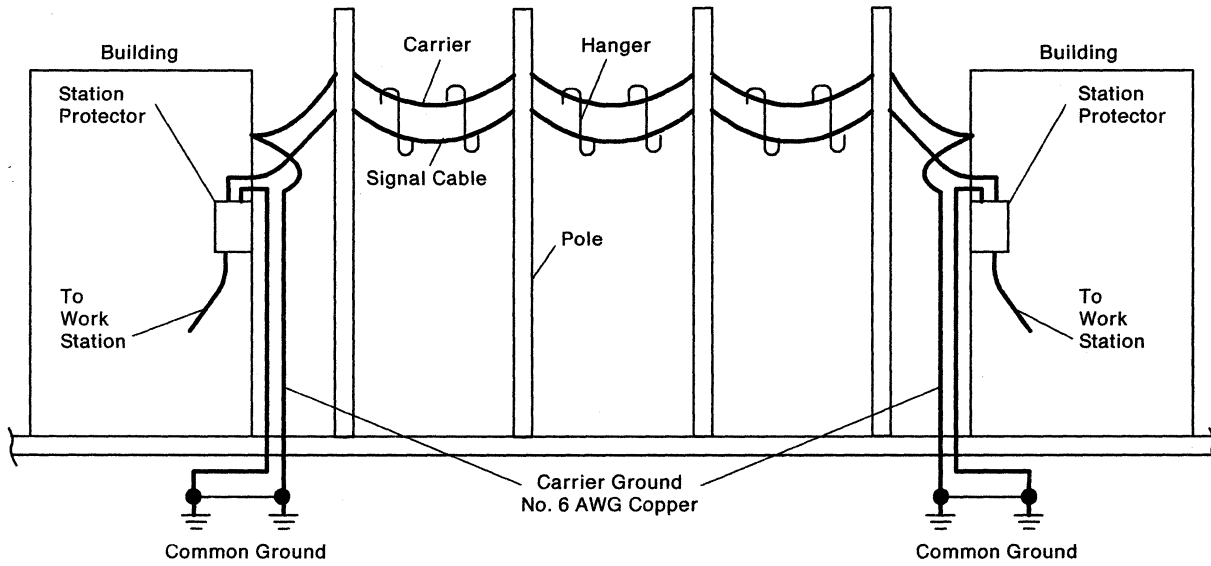

Figure 8. Using a Carrier with Overhead Cables
- Put overhead cables on a carrier with the carrier grounded at each end. See Figure 8.